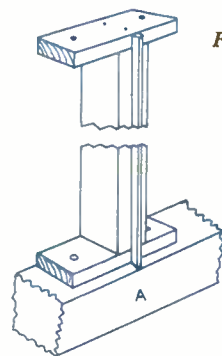

Fig. 5
The vertical sashbars of the front are most easily fixed by nailed T-pieces over each end and nailing this on to the (A) and (B) members. These T-pieces can be of wood or metal. 3/4 in. thick wood is quite adequate. Fig. 5 shows the method.